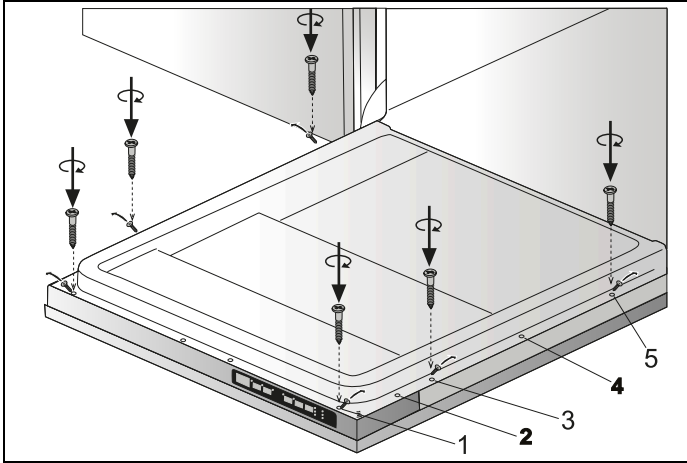

Fig. 28
6) The screws located on the wooden door are fitted to the dishwasher at the discharges located on the door outer sheet and are assembled as shown in Fig. 28 .
- 8) As shown in Fig. 28 , Screws  $\varnothing 5/32"$  x  $53/32"$  ( $\varnothing 4\text{mm}$  x 42.5mm) are installed in positions I, III and V.